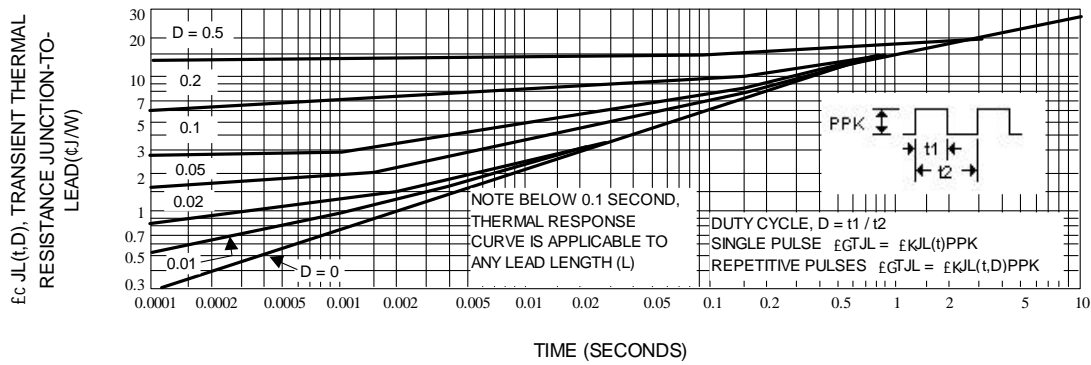
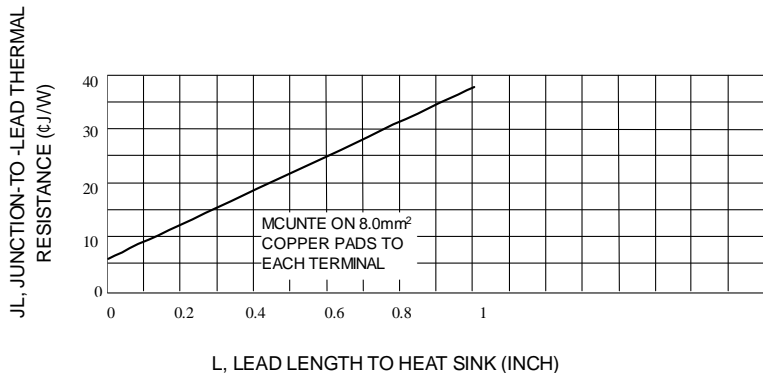
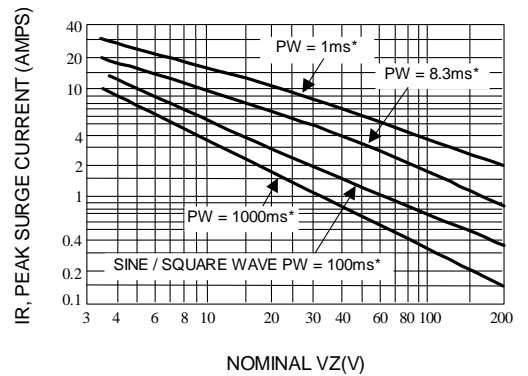
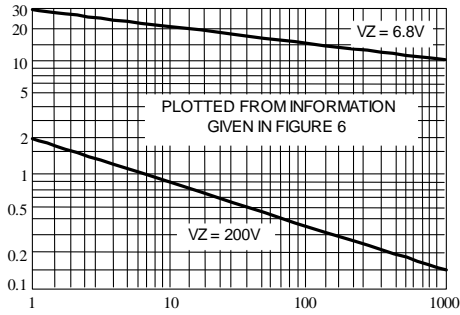

Fig. 3-TYPICAL THERMAL RESPONSE
Fig. 4-TYPICAL THERMAL RESISTANCE
Fig. 5-MAXIMUM NON-REPETITIVE SURGE CURRENT VERSUS NOMINAL ZENER VOLTAGE (SEE NOTE 3)
Fig. 6-PEAK SURGE CURRENT VERSUS PULSE WIDTH(SEE NOTE 3)
3. SURGE CURRENT (I_r) - Surge current is specified as the maximum allowable peak, non-recurrent square-wave current with a pulse width, PW, of 8.3 ms. The data given in Figure 5 may be used to find the maximum surge current for a square wave of any pulse width between 1 ms and 1000ms by plotting the applicable points on logarithmic paper. Examples of this, using the 6.8v and 200V zeners, are shown in Figure 6. Mounting contact located as specified in Note 3. ($T_A=25 \text{ }^\circ\text{C}$).
θ_{JT_L} is the increase in junction temperature above the lead temperature and may be found from Figure 3 for a train of power pulses or from Figure 4 for dc power.
Data of Figure 3 should not be used to compute surge capability. Surge limitations are given in Figure 5. They are lower than would be expected by considering only junction temperature, as current crowding effects cause temperatures to be extremely high in small spots resulting in device degradation should the limits of Figure. 5 be exceeded.
*** Data of Figure 3 should not be used to compute surge capability. Surge limitations are given in Figure 5. They are lower than would be expected by considering only junction temperature, as current crowding effects cause temperatures to be extremely high in small spots resulting in device degradation should the limits of Figure. 5 be exceeded